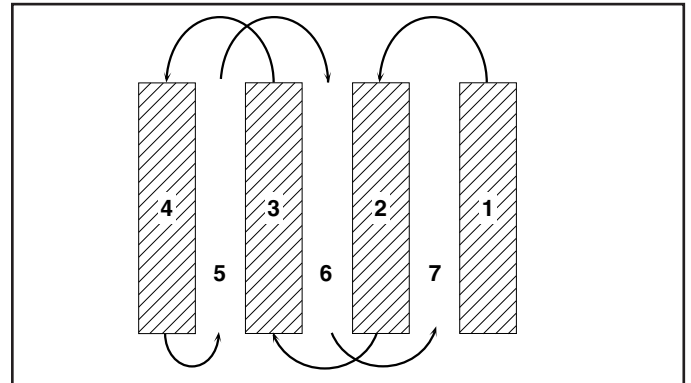

Fig. 9
- You will find tilling much easier if you leave a row un-tilled between passes. Then go back between tilled rows. (See Fig. 9) There are two reasons for doing this. First, wide turns are much easier to negotiate than about-faces. Second, the tiller won't be pulling itself, and you, toward the row next to it.